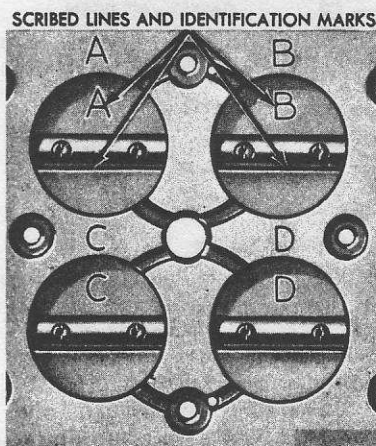

Fig. 3.56 Match mark the throttle plates (Sec. 23)
- 21 Match-mark the throttle plates (see Fig. 3.56) then undo the retaining screws and remove the throttle plates.